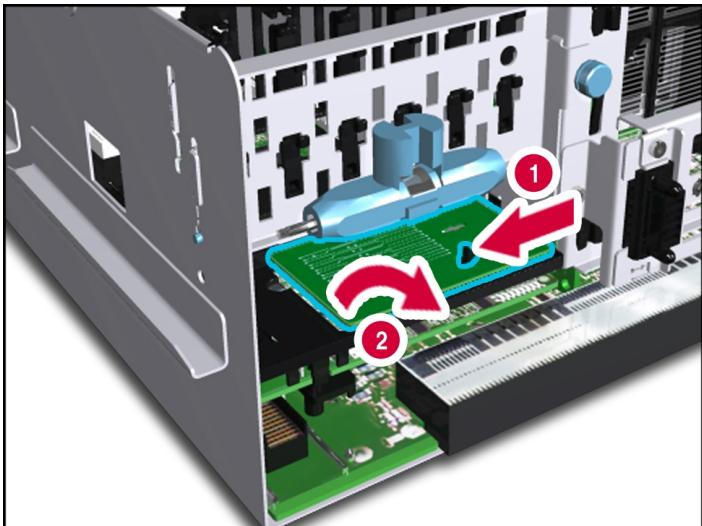

Figure 4-9: Removing the Array Enabler board
7. Slide the retaining clip (1) and remove the Array Enabler board (2) from the server, as shown in Figure 4-9.